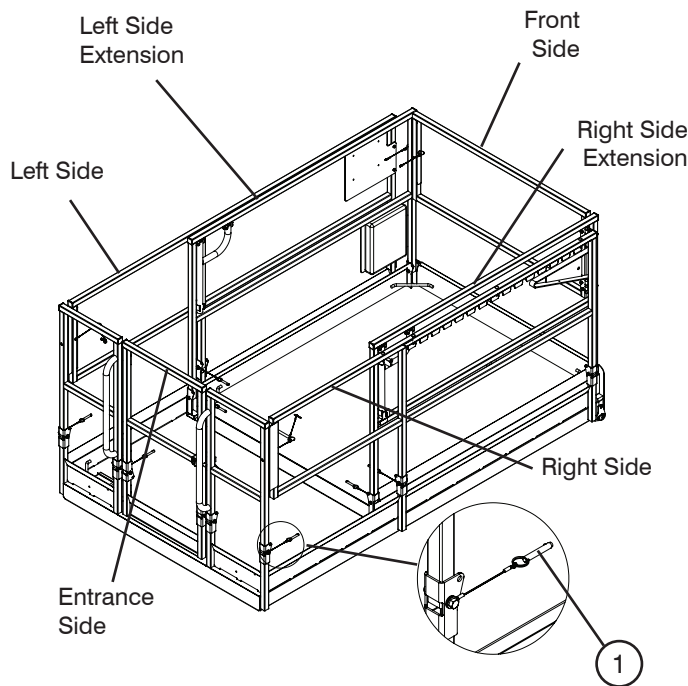

Figure 3-8a. Folding Guardrail System
9. Fold down guardrails in the following order: front, right extension, left extension, right-side, left-side and entrance (refer to Figure 3-8a).